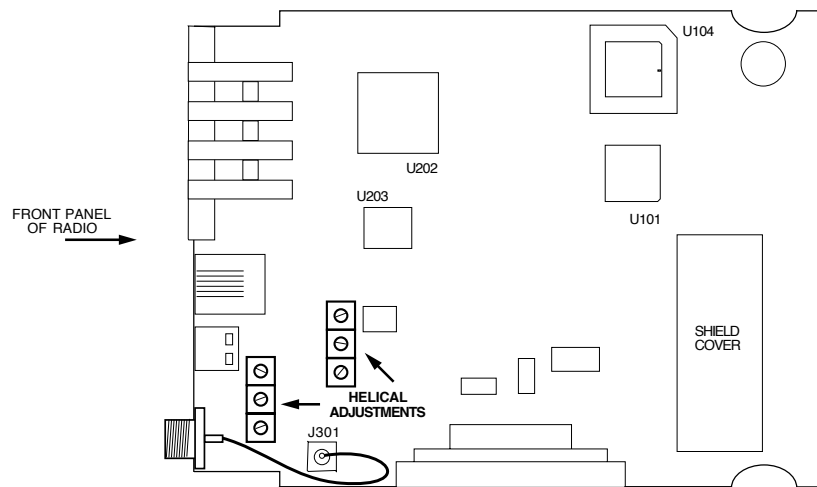

Figure 13. Helical Filter Locations
2. Locate the helical filters on the PC board. See Figure 13.